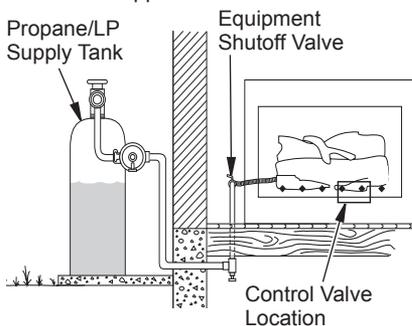

Figure 12 - Checking Gas Joints (Propane/LP Gas Only)
- Check all joints from gas meter to equipment shutoff valve for natural gas or propane/LP supply to equipment shutoff valve for propane/LP (see Figure 12 or 13). Apply noncorrosive leak detection fluid to all joints. Bubbles forming show a leak.
- Check all joints from equipment shutoff valve to gas control (see Figure 12 or 13). Apply noncorrosive leak detection fluid to all joints. Bubbles forming show a leak.